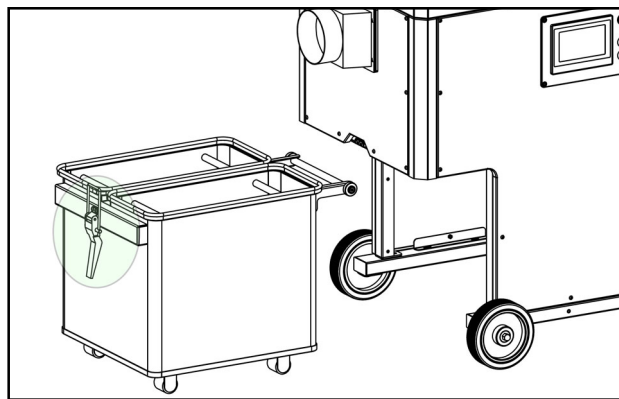

Fig.14
As shown in Fig. 14, release the handle and pull out the dust bin. After emptying the bin, push the bin back into the end of the cabinet and lock the handle.
#### **6.1 Cleaning Dust Bin (Fig. 14)**
2. As shown in Fig. 14, turn the locking knob and pull out the filter. Use compressed air to clean the dust on the outside of the filter.
As shown in Fig. 14, turn the filter locking knob and pull out the filter.